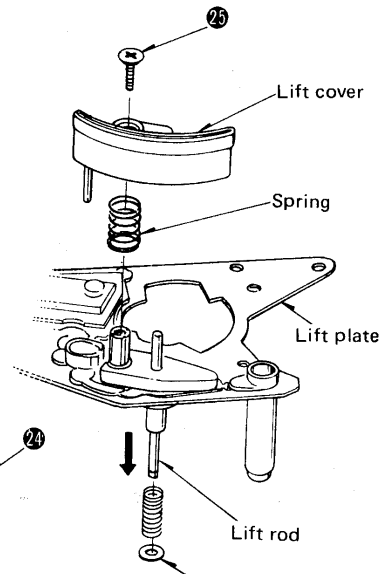

Fig. 12
3. Remove the setscrew [ Fig. 12: 25 ] of the arm lift cover.
4. Remove the washer [ Fig. 12: 26 ] from the arm lift rod.